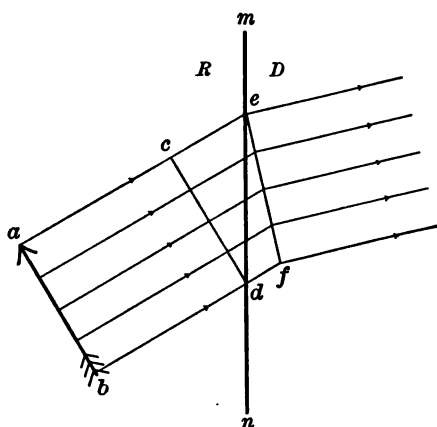

FIG. 157
In Fig. 157 let  $mn$  be the surface between a rare medium,  $R$ , and a dense one,  $D$ . Parallel rays run from the object  $ab$ , and  $cd$  shows the position of these rays when those near  $bd$  reach the dense medium. Now, because they are in a *denser* substance, the rays  $bd$  will travel only from  $d$  to  $f$  while those near  $ac$  are going from  $c$  to  $e$ ; so when all the rays are in the dense
*Definition.* The line  $cd$  (Fig. 157), for example, includes all vibrating particles which are at a certain